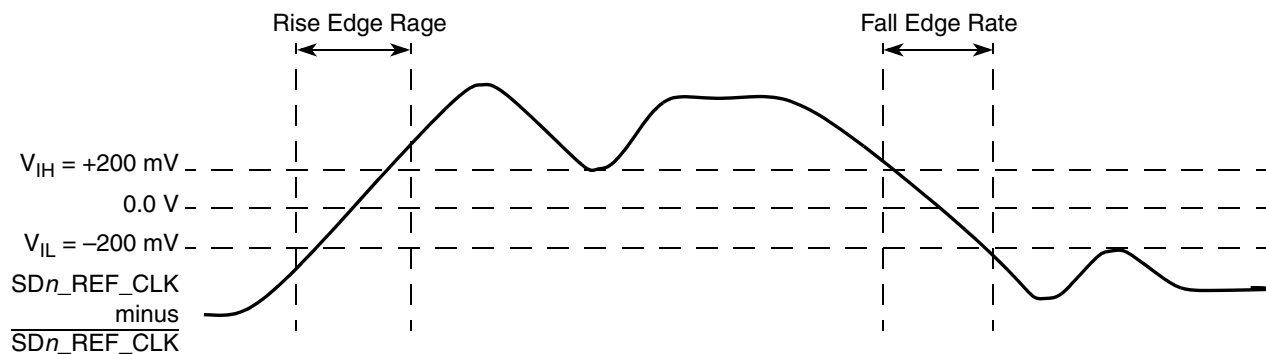

Figure 53. Differential Measurement Points for Rise and Fall Time
3. Measured from –200 mV to +200 mV on the differential waveform (derived from SDn_REF_CLK minus $\overline{SDn_REF_CLK}$). The signal must be monotonic through the measurement region for rise and fall time. The 400 mV measurement window is centered on the differential zero crossing. See Figure 53.